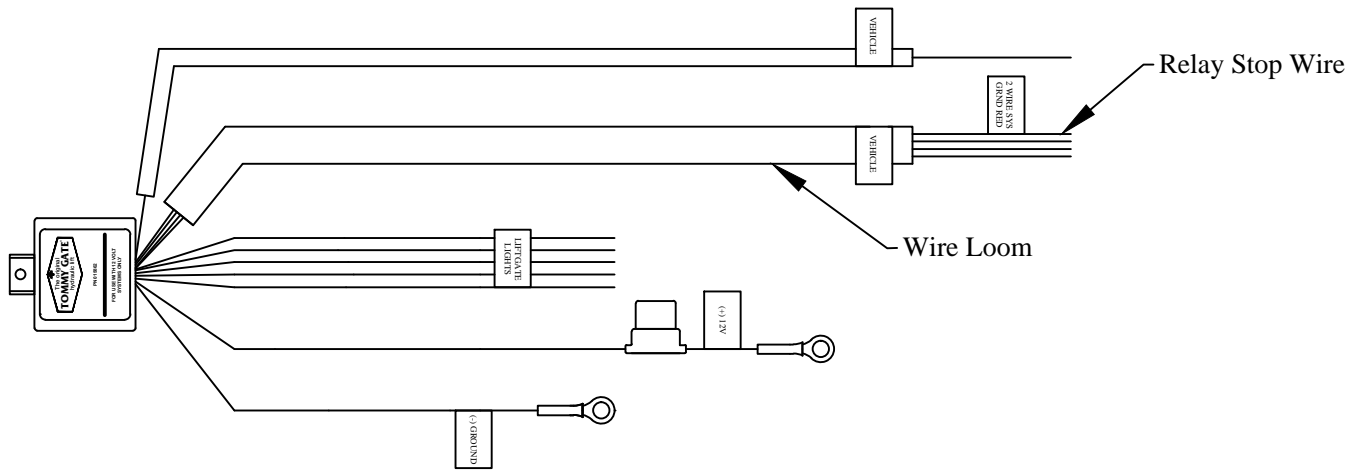

Figure 4: Locating relay stop wire.
**11. Remove** the relay's red stop wire from the wire loom labeled "VEHICLE" (Figure 4).